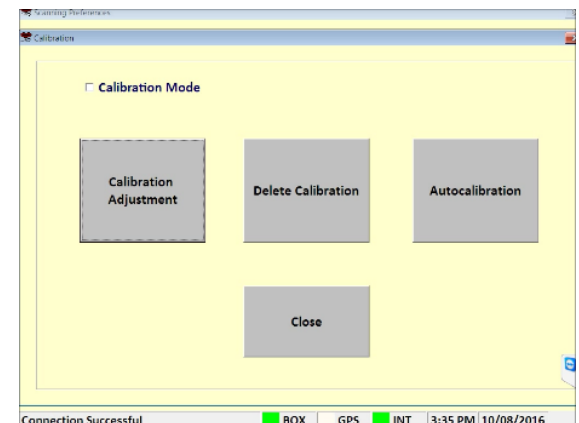

Figure 5-15. Calibration Menu
- Click on **Calibration Adjustment** menu. Figure 5-15
- Click on Calibration Delete Calibration Figure 5-15